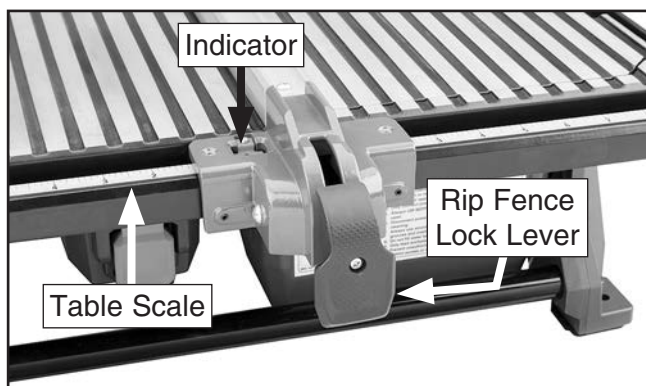

Figure 10. Rip fence attached to table.
9. Place rip fence on table to left of blade so indicator lines up with table scale (see **Figure 10**), then secure by pushing lock lever down.